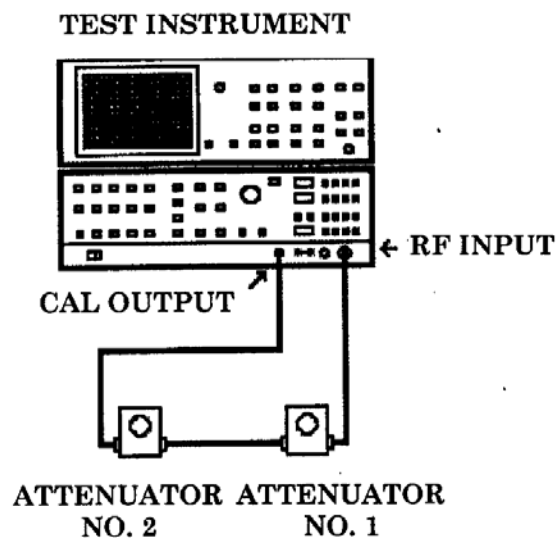

Figure 16. Attenuator connection.
(59) Multimeter should indicate between 8.5 and 11.0 V dc. If measurement is out of tolerance, adjust A4A5R2 for a multimeter indication of  $9.5 \pm 0.1$  V dc (R).
(60) Connect equipment as shown in figure 16 below.